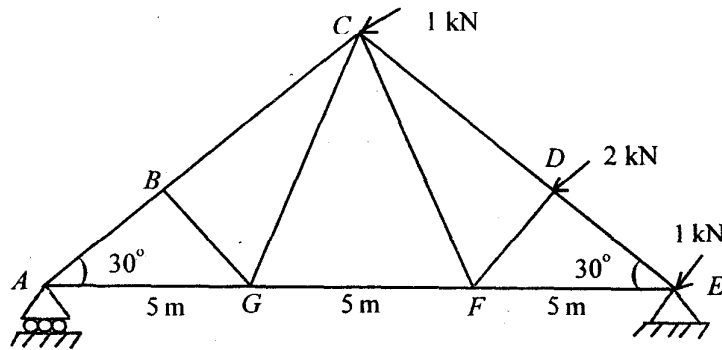

Fig. 3
3. A truss of 15 m span is loaded as shown in Fig. 3. Find the forces in the members of the truss by the method of joints. 20